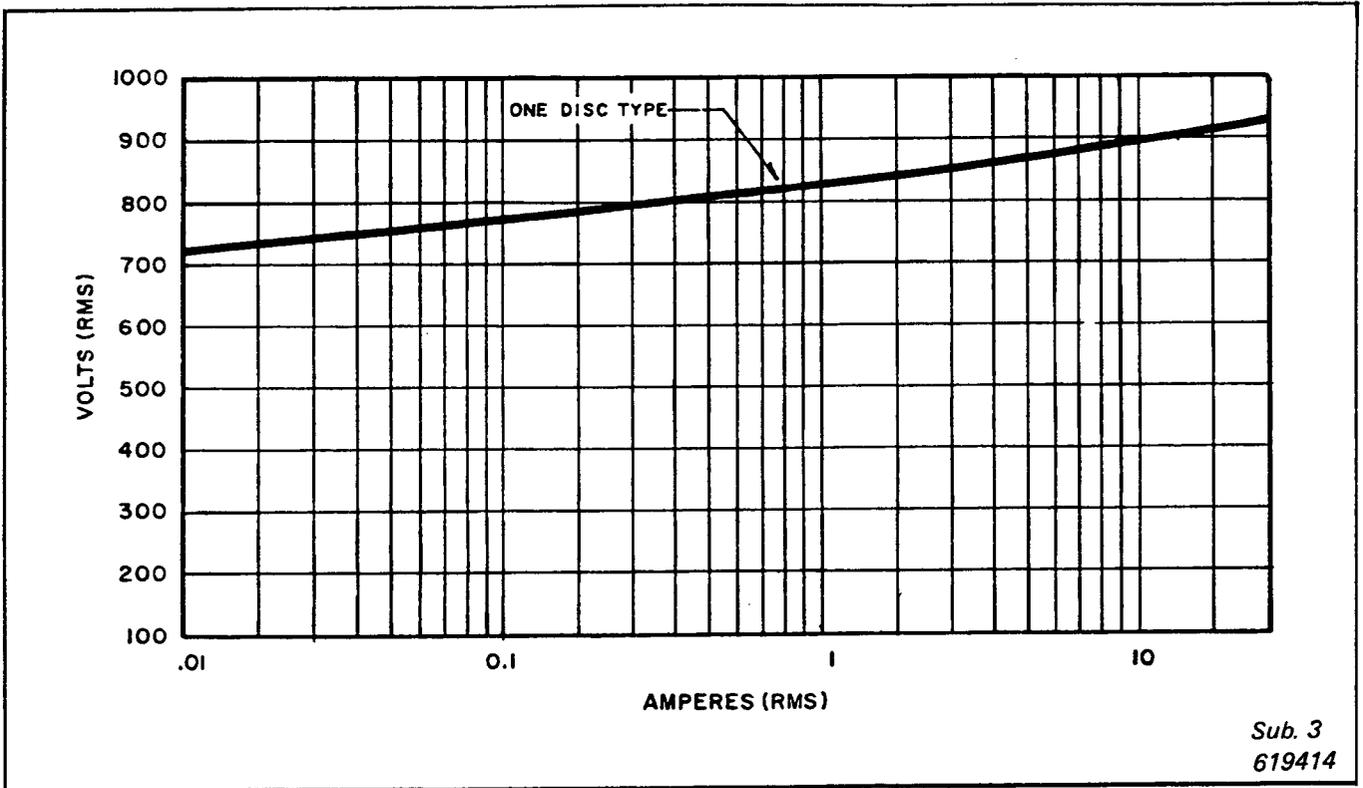

Fig. 4. Typical Volt-Ampere Characteristic of Varistor in Type KAB Relay (RMS).
c) To determine the minimum fault current required to operate the relay at the setting of 266 volts, assume that, from the ct saturation curve, $I_e = 0.045$ amp at 266 volts. from Figure 4, $I_V < 0.01$ amp at 266 volts (RMS) and may be ignored.